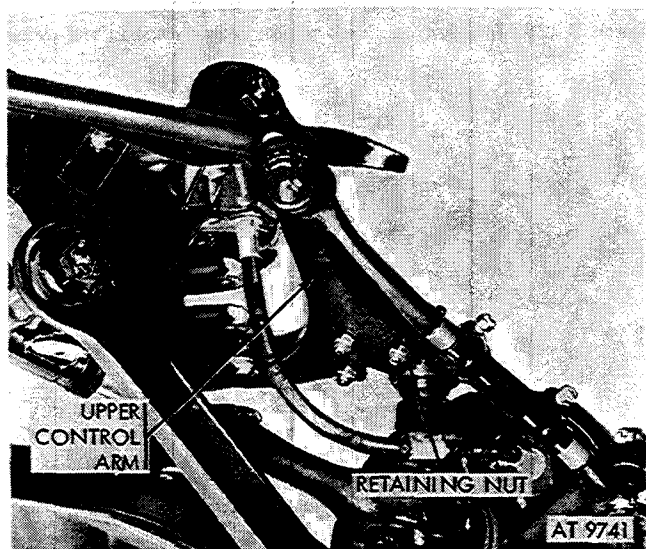

Figure 2-315. Remove retaining nuts and bolts from upper control arm.
(4) Remove three ball joint retaining nuts and bolts from upper control arm (fig. 2-315).